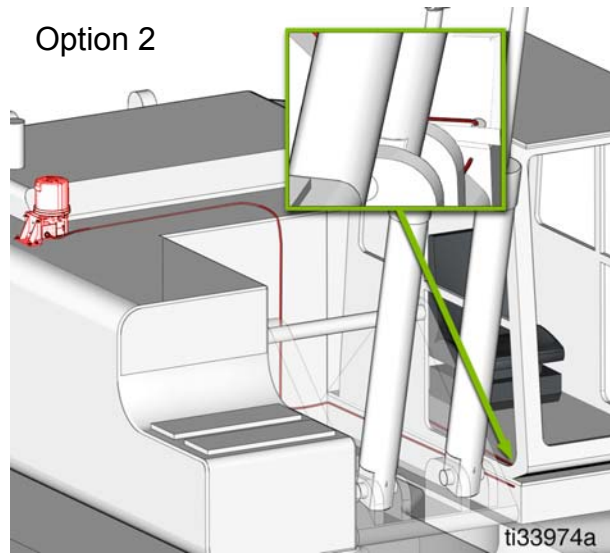

FIG. 13
- The deck plate that surrounds the cab is the preferred installation location (FIG. 13). The deck plate is a non-critical component and therefore drilling through the deck plate is generally acceptable by most manufacturers. However, if this location is not acceptable due to durability or space constraints, identify an alternate location around the cab such as below the ladder, in the engine compartment or on the frame.